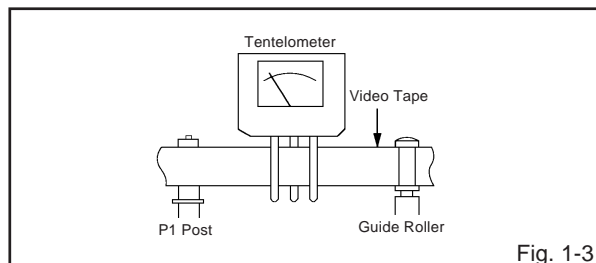

Fig. 1-3
- Install the tentelometer as shown in **Fig. 1-3**. Confirm that the meter indicates  $20 \pm 2$  gf in the beginning of playback.